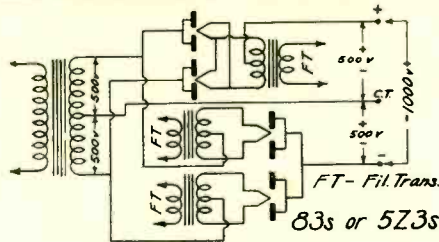

FIG. 1
**T**HE use of four 83s (or 5Z3s) in the conventional bridge full wave circuit is not new, although very few amateurs use it. The cost of four low-priced tubes amounts to less than the cost of even two cheap 866's, and the current output is somewhat greater. The circuit is shown in Fig. 1 and it should be noted that AT LEAST THREE SEPARATE FILAMENT WINDINGS ARE NECESSARY. The transformer only needs to have 500 volts each side of center, as the two halves are effectively in series, rather than in parallel, as in the conventional full wave circuit. The center-tap is not used if the full thousand volts only is desired. However, it makes a fine low voltage tap as it is 500 volts more positive than the common plates and 500 volts more negative than the common filaments.